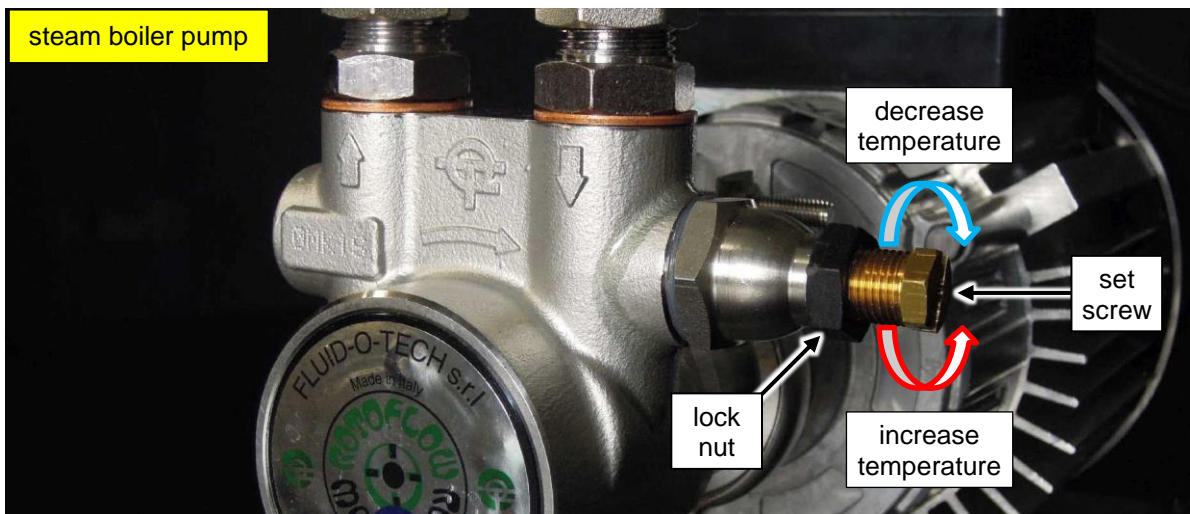

Figure 22. the steam boiler pump pressure is used to set the hot water temperature.
5. If the temperature is too low: decrease pump pressure of the steam/hot water boiler pump. If the temperature is too high: increase pump pressure (see Figure 22).